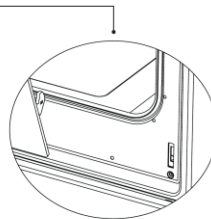

Fig. 9.2
4. In order to easily remove the oven door, when it approaches the closed position, grasp the door with both hands and pull it upwards, see Figure 9.2.